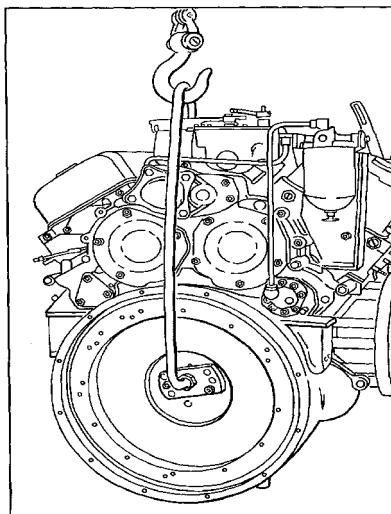

Figure 1. Removing Flywheel
- b. Attach flywheel lifting tool J 6361-01 to the flywheel with two 3/8-16 bolts of suitable length as shown in Fig. 1 or use tool J 25026.